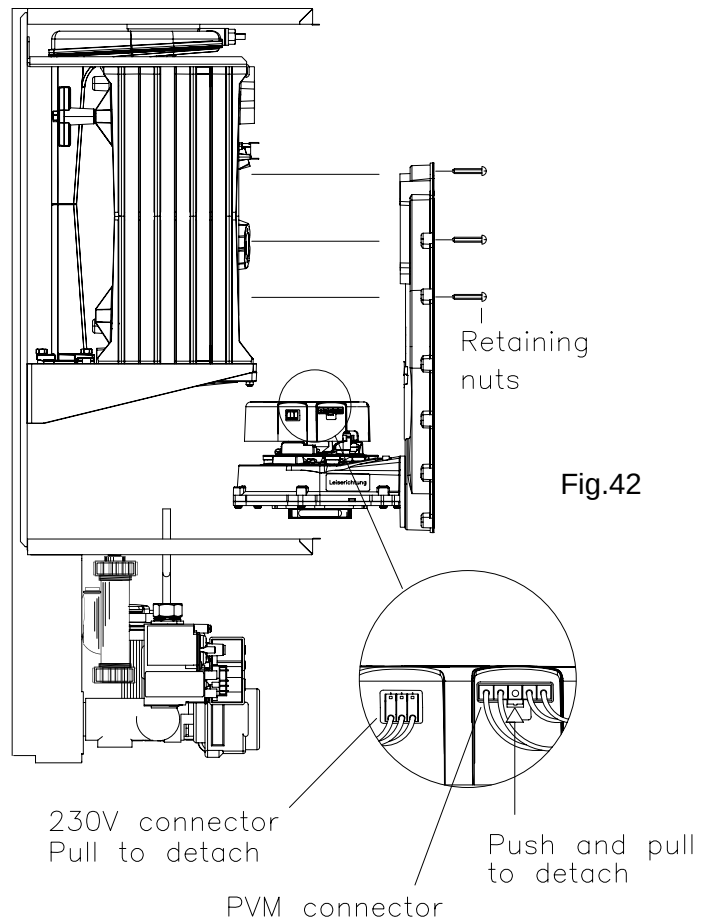

Fig.42
8.4.2 Remove three manifold/burner retaining nuts Fig. 42). Pull forward and lift up manifold slightly to remove.
**8.4.3** Detach power supply cables to fan (Fig.42). The fan and the manifold can then be removed from the boiler.